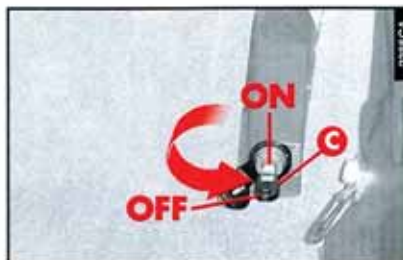

fig. 8
- insert the emergency key (**C-fig. 8**) and turn it counter-clockwise (**OFF** position) = alarm deactivated.